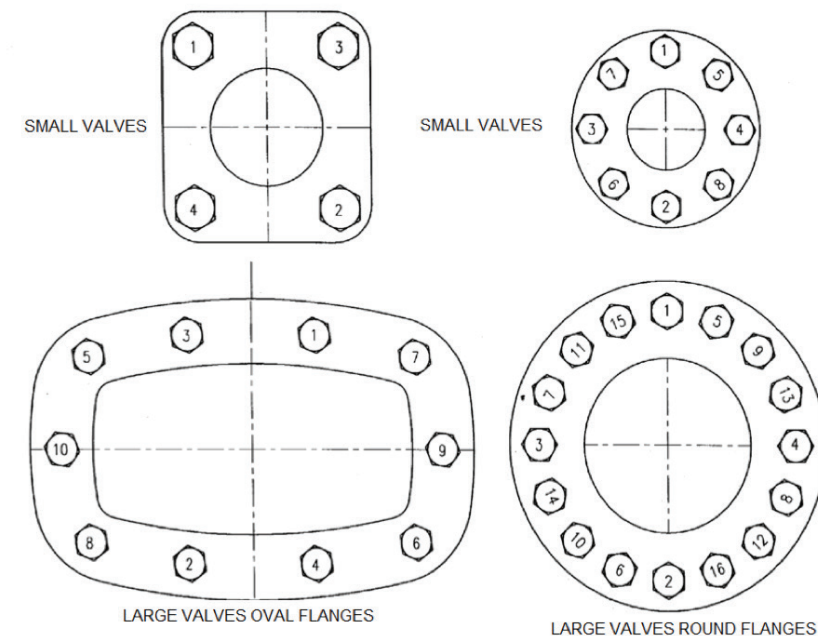

FIG. 4. BOLT TIGHTENING SEQUENCE
5. Tightening Procedure. Hand tighten nuts. Observe the tightening sequence shown in Figure 4